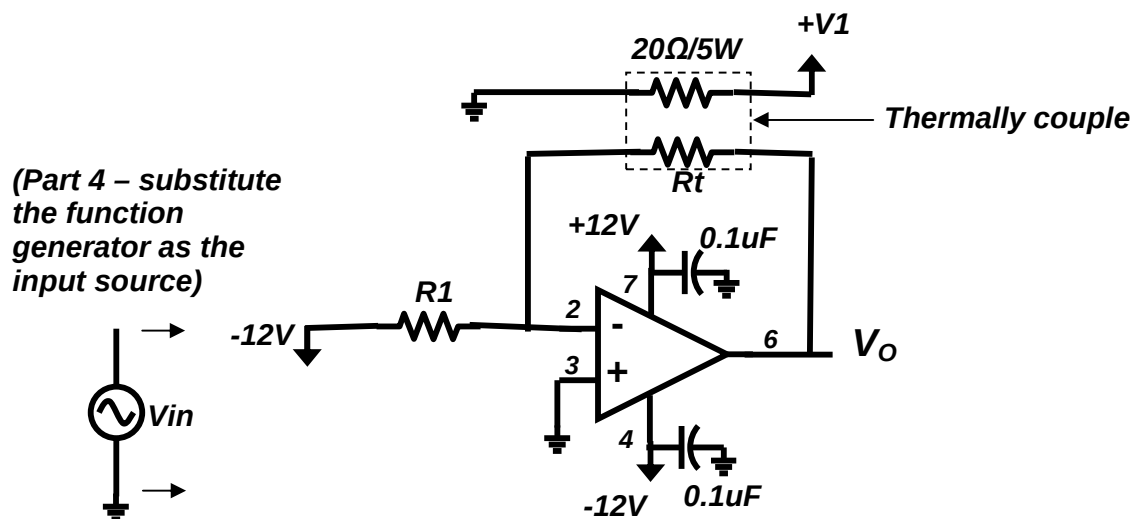

Figure 3a
1. Build the circuit of figure 3a, using the decade resistor as R_1 . Use the $\pm 20V$ outputs of the power supply to create the $\pm 12V$ sources, and use the $+18V$ supply for V_1 . Be sure V_1 is initially set to $0V$. The thermistor needs to be thermally coupled to the 20Ω